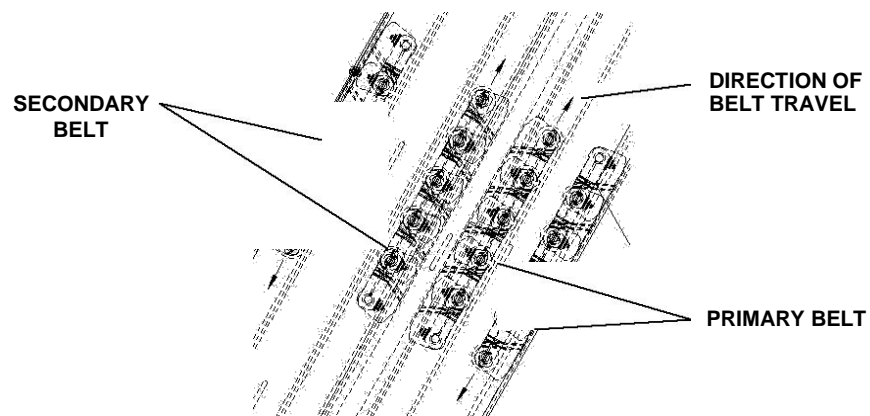

Figure 19: Primary and secondary belt direction
3. The primary and secondary belts must be inserted in opposite directions (Figure 19). Use the belt direction indicators on the side wings (Figure 20). The primary belt should be installed before the secondary belt for ease of installation.